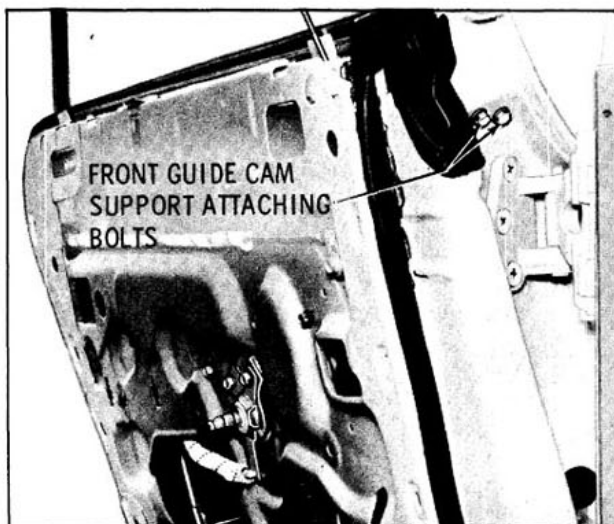

Fig. 16-72 Front Guide Cam Attachment
- (3) On 39 styles, loosen two front guide cam support attaching bolts located on door hinge pillar facing. (Fig. 16-72)
- (4) Position front edge of window assembly in or out as required and tighten front guide cam upper attaching bolt(s).
3. At door hinge pillar facing, remove two bolts securing guide cam support and remove support through inner panel access hole. (Fig. 16-72)